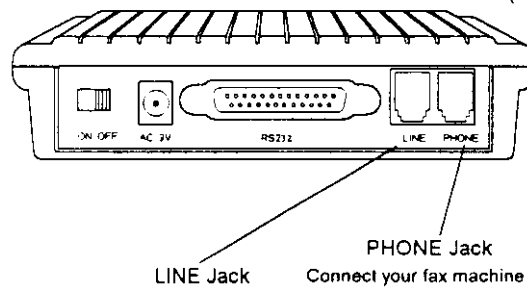

Figure 1-1. Back of modem
1. Plug the male DB-25 connector on your RS-232C cable into the RS-232 connector on the back of the modem (see Figure 1-1).
3. Take one end of the modular telephone cable supplied with your modem and plug into the **LINE** jack on the back of the modem (see Figure 1-1).
1. Connect the fax machine's modular cord into the **PHONE** jack on the back of your modem (see Figure 1-1).
1. Insert the supplied power cable into the round AC-IN connector next to the POWER switch on the back of the modem (see Figure 1-1).